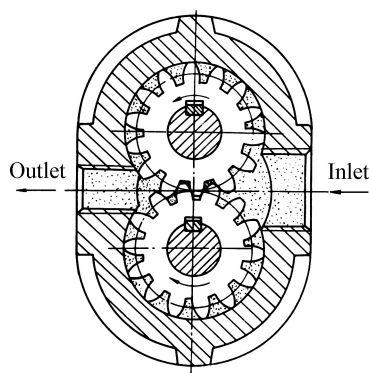

Fig. 5-2 External Gear Pump
- In an external gear pump shown in Fig.5-2, two inter-meshing gears of the same diameter and form are mounted on separate spindles and housed in a close fitting casing.
如图5-2所示, 在外啮合齿轮泵上, 密闭的泵体内有两个安装在不同轴上的形状相同、尺寸相等的